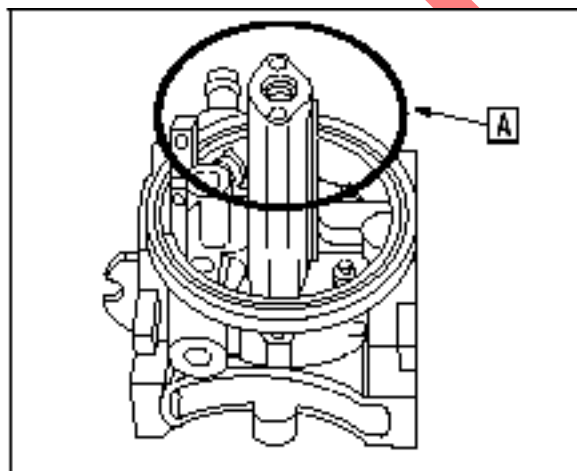

Fig. 96
2. Remove float bowl gasket ([A] Fig. 96).